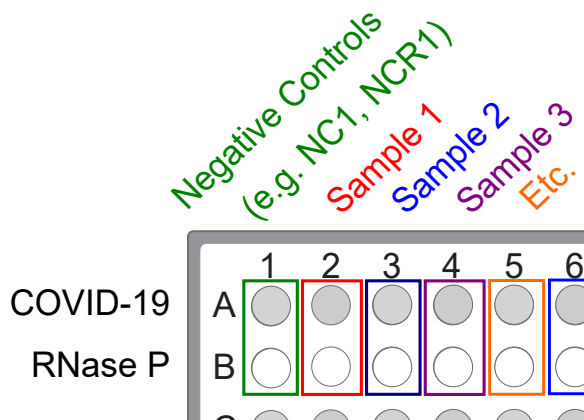

Figure 8 Paired sample and Negative Control wells for each assay
- b. Unseal the extraction plate, then add the Negative Control from the single well of the extraction plate to wells A1 and B1 of the reaction plate, as shown in Figure 8 on page 61.